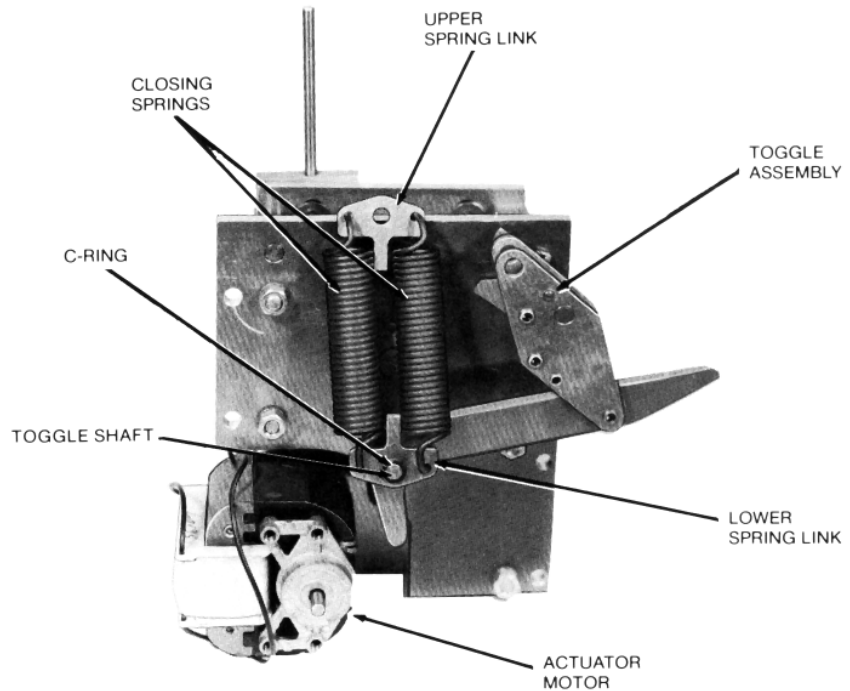

Figure 38.
6. Lift out the speed reducer with toggle assembly and opening springs attached as shown in Figure 38. Remove the springs from the lower spring link.